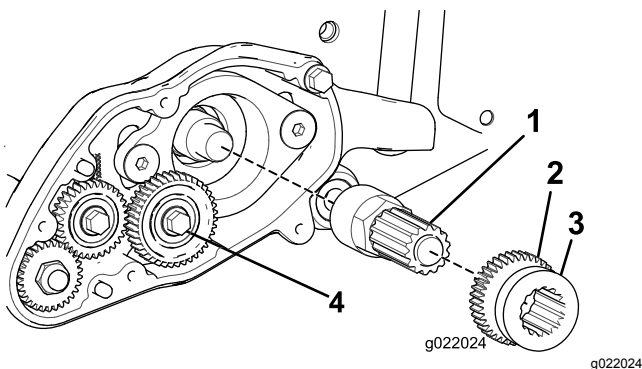

Figure 11
3. Thread the shaft assembly onto the reel-shaft extension (Figure 11).
5. Apply synthetic grease (supplied with the kit) to the male spline of the shaft assembly (Figure 11).
6. Slide the drive gear with the groove oriented outward onto the shaft assembly (Figure 11).
7. Install the 40 tooth idler gear (Figure 11).